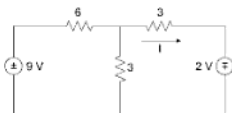

Fig. A2-1
1. In the circuit shown in Fig. A2-1, the current ' I ' marked is given by